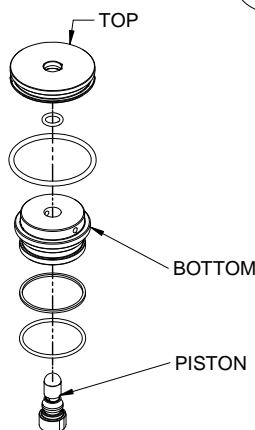

Figure 4- Piston Housing Assy Exploded View
8. Separate Piston Housing Assembly as shown in Figure 4. Discard Piston, O-rings and Backup Ring.